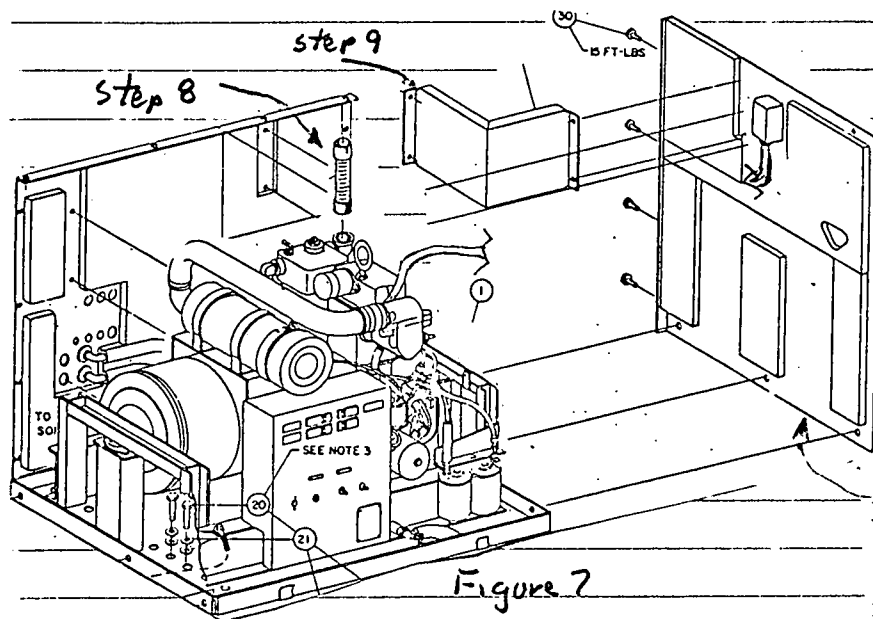

Figure 7
2. Position the compartment interior exhaust shield in the upper right rear corner around the generator set exhaust pipe. Line up mounting holes and secure using 1/4-20 x 5/8 inch hex head capscrews supplied in accessory package. Capscrews are inserted from exterior side of the compartment into self-cinching nuts that are already positioned on the shield. Torque at 7 foot pounds (9N·M). See Figure 7.
Replace the right hand side panel of the compartment housing by installing ~~two~~ 3/8-16 x 3/4 inch hex head capscrews in the ~~bottom center and rear holes to~~ secure panel to the mounting tray. See Figure 7. Torque all 3/8 inch capscrews at 25 foot pounds (34N·M).